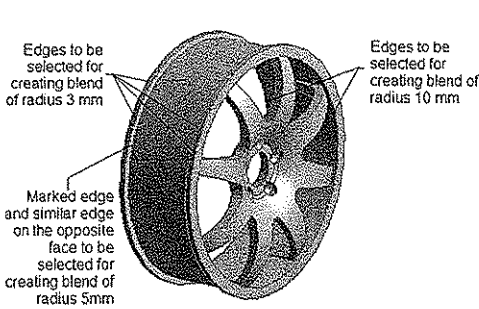

Figure 5-32 Edges to be selected for creating the blend feature
- 2. Press the CTRL key and select the two edges shown in Figure 5-32 for creating a blend of radius 10 mm.
- 6. Similarly, create two blend features of radius 5 mm and 3 mm respectively. Refer to Figure 5-32 for the edges to be selected.